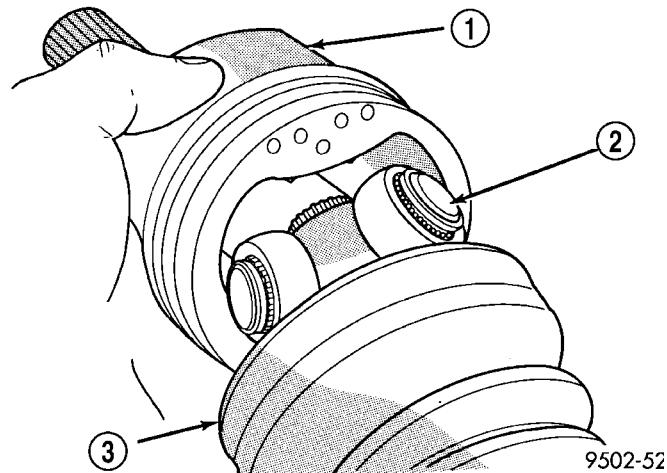

Fig. 29 Spider Assembly Joint Removal from Housing
(3) Slide the interconnecting shaft and spider assembly out of the tripod joint housing (Fig. 29).